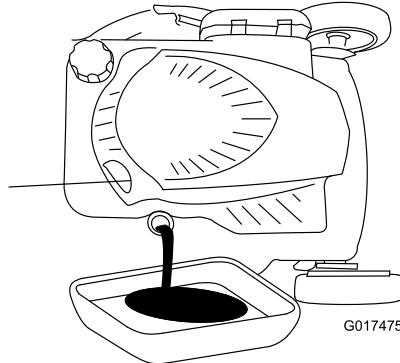

Figure 26
5. Tip the mower onto its side, with the dipstick down, to drain the used oil out through the oil fill tube (Figure 26).